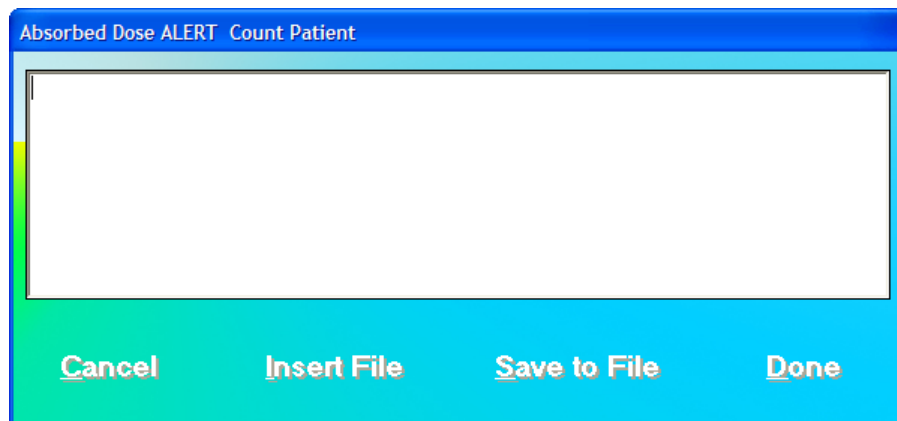

Figure 7-27
- To add comments to the report, click the **Comment** button. The Comment window will appear as shown in Figure 7-27. Refer to CHAPTER 3: GENERAL OPERATING INSTRUCTIONS; SECTION: ADD COMMENTS SCREEN.